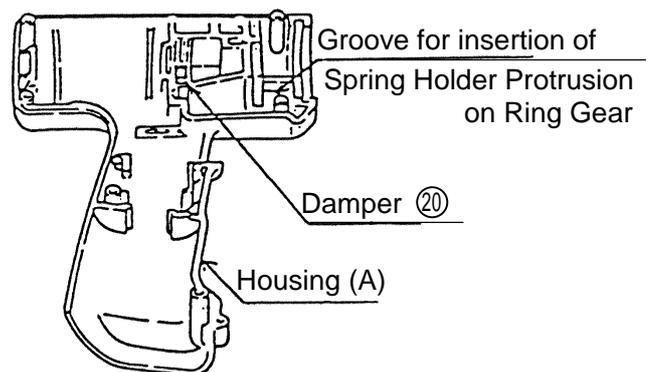

**Fig. 6**
(2) Reassembly of the Motor Section:
[1] Assemble the Idle Gear (18) and Ring Gear (21) in sequence onto the Gear Holder (18), and apply grease (Hitachi Motor Grease No. 29 is recommended) to the inside of the Ring Gear. Finally, put the Washer (22) on the Ring (21). (Fig. 6)